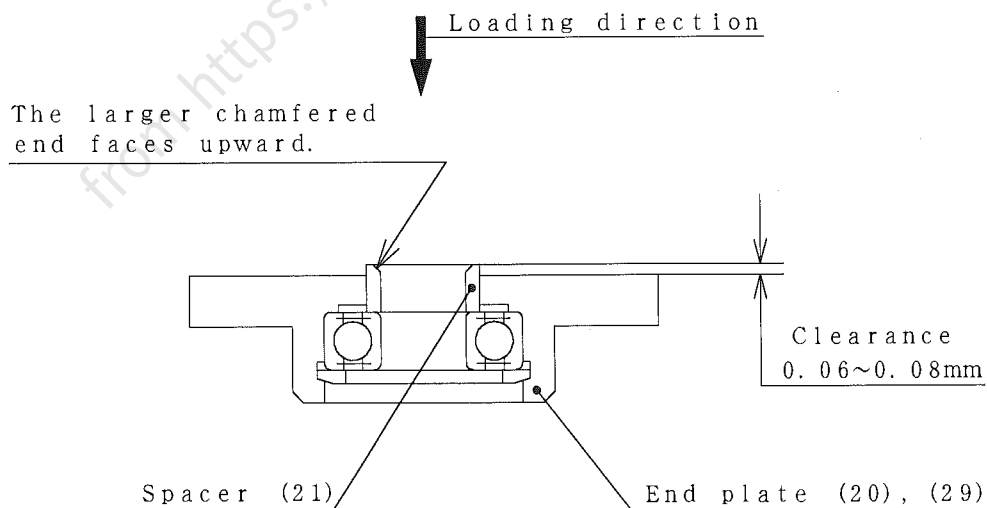

Fig. 14
- ② Install Spacers(21) so the larger chamfered end contacts Rotor(24) (see Figure 14).
Allowance for the projection is 0.06~0.08 mm (see Figure 14).